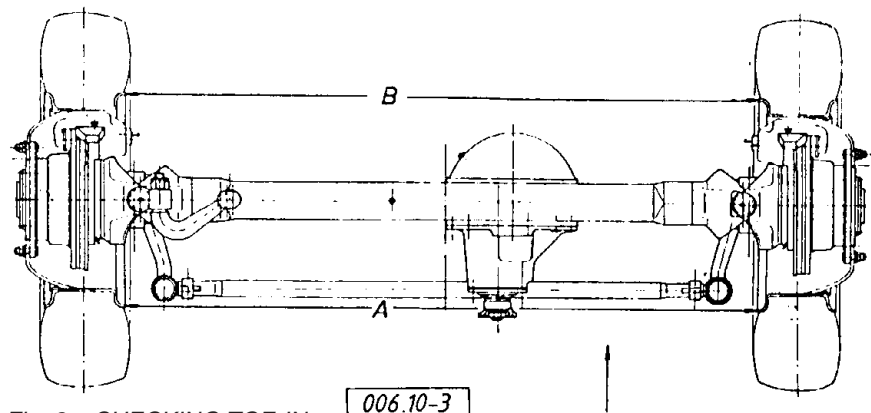

Fig. 2.: CHECKING TOE-IN
**(Fig. 2. and 3.)**
Toe-in **(Fig. 2.)** means the difference between the dimensions "A" and "B" as measured at the height of the wheel center in front and rear on the wheel disk flange. The value "B" measured at the front is smaller.